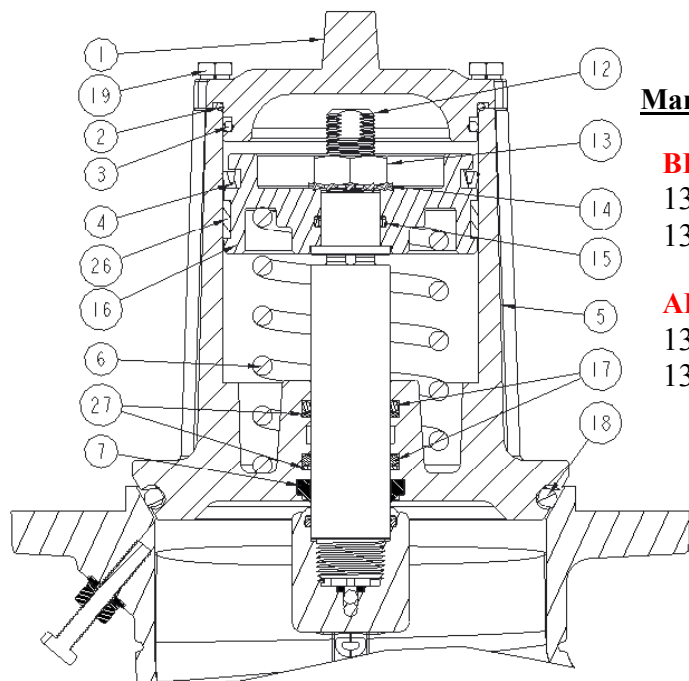

Figure 1 - Air Operated Internal Valve Section View
1. Review Figure 1 before disassembling the valve
2. Remove bolts/washers (19). This will allow the end cap (1) to be removed.
3. Remove nut and lock washer (13)(14). This will allow the piston (16), and poppet (5) to be removed from the shaft (12).
4. For 13139RK-P and 1313VRK-P, Replace piston (16), u-cup seal (4), o-ring (15), poppet (5), o-rings (17), back-up rings (27), and wiper seal (7).
5. For 13139RK and 1313VRK,. Replace u-cup seal (4),o-ring (15), o-rings (17), back-up rings (27), and wiper seal (7).
6. Install wiper seal (7), o-rings (17), and back up rings (27) into poppet assembly (25). Ensure back up rings are installed on bottom side of o-rings as shown in figure 1.
7. Generously apply lubricant (28) to wiper seal (7), o-rings (17), and shaft (12).
8. Install poppet assembly (5) onto shaft (12) being careful not to damage o-rings (17).
9. Install u-cup seal (4) into piston (16)
10. Generously apply lubricant (28) to o-ring (15), u-cup seal (4) and poppet bore (5). Ensure Bearing (26) is installed in piston assembly.
11. Re-install spring (6), new piston assembly (16), seals from kit (4 & 15), and nut/washer (13)(14). Tighten nut (13) until piston (26) is fully seated onto shaft (12).
12. Remove o-rings (2)(3) from end cap (1), being careful not to scratch o-ring grooves, and replace with new seals from kit.
13. Apply lubricant (28) to end cap o-rings (2)(3). Re-install end cap (1), install lock washers and securely tighten bolts.